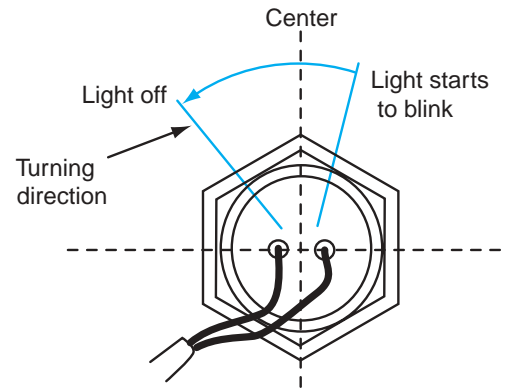

Figure 13-36 Adjusting the rear sub steering angle sensor.
12. Slowly rotate this sensor clockwise until the 4WS indicator light starts to blink and mark the sensor in relation to the housing. Turn the sensor to the center position between where the indicator light went off and the light started to blink (Figure 13-36). Hold the sensor in this position and tighten the locknut to the specified torque.